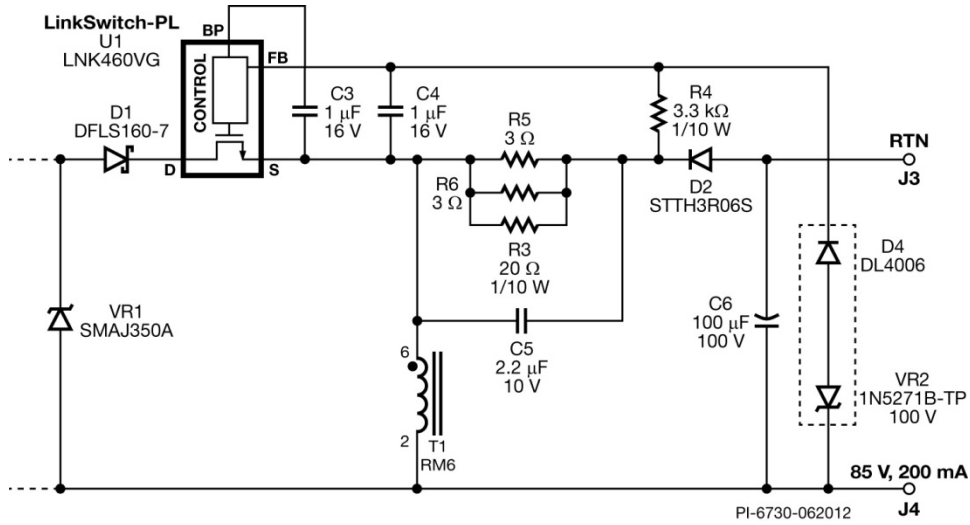

Figure 3A – Auto-Restart Overvoltage Protection with Buck-Boost Configuration.
Another option shown in Figure 3A is an auto restart overvoltage protection. Zener VR2 is connected to V_{OUT+} and in series with blocking diode D4. If a no-load condition occurs on the output of the supply, the output overvoltage Zener diode (VR2 in Figure 3A) will conduct once its threshold is reached. A voltage in excess of $V_{FB(AR)} = 2\text{ V}$ will appear across the FEEDBACK (FB) pin, and the IC will enter auto-restart. Note: Diode D4 is not included in the PCB layout.